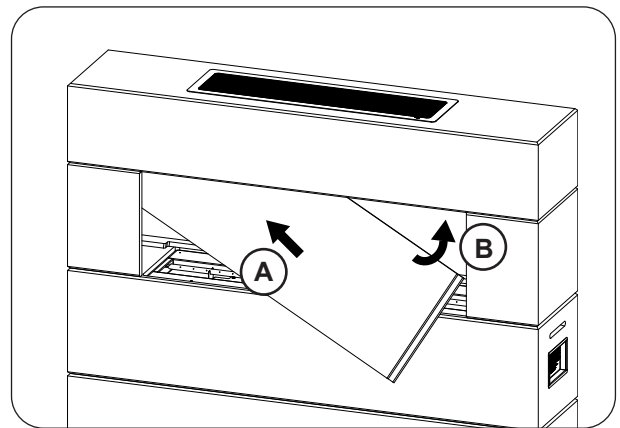

Fig. 32-2 Insert rear panel
1. Insert the rear liner. It will need to be inserted at an angle and tilted back to clear the front opening, then rotated into position (centered) against the rear wall (see Fig. 32-2).